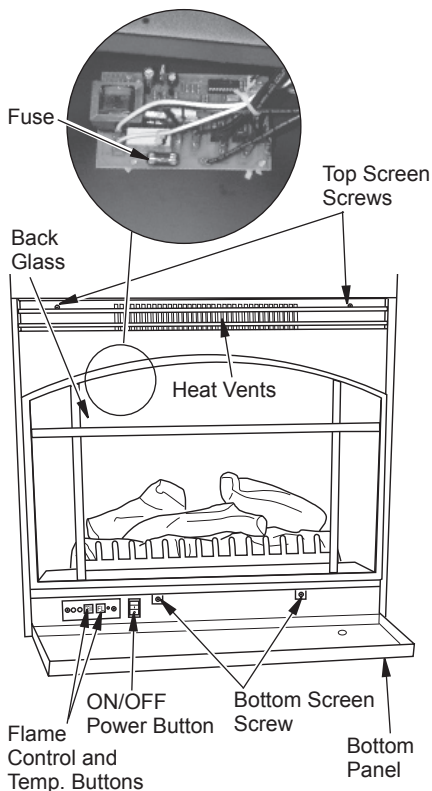
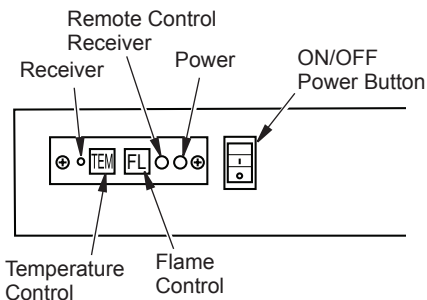

Figure 2 - Product Identification
Figure 5 - Controls For Electric Fireplace
The controls (see Figure 5) are located behind the bottom panel. Pull gently on bottom panel to open.
2. **Main ON/OFF Power Switch and LED:** This switch is located on the left side of the control panel. The power LED will light up when the unit is on (see Figure 5). When unit is on, the default settings for the fireplace is low background lighting and high ember bed and flame and the heater is off.
3. **Temperature Control Button and LED:** This button is located to the right of the Remote Control Receiver (see Figure 5). The LED is located to the right of the Flame Button. Push button to cycle through settings. When this button is pushed the LED will turn on. When heater is on heat will emit through vents located in the middle of the top louver panel (see Figure 2, page 3).
4. **Flame Control Button:** This button is located to the right of the Temperature Button (see Figure 5). After power is on, push the Flame Control Button to adjust flame and ember bed brightness. Press and release the Flame Control Button to cycle through LO, MED, HI and OFF.